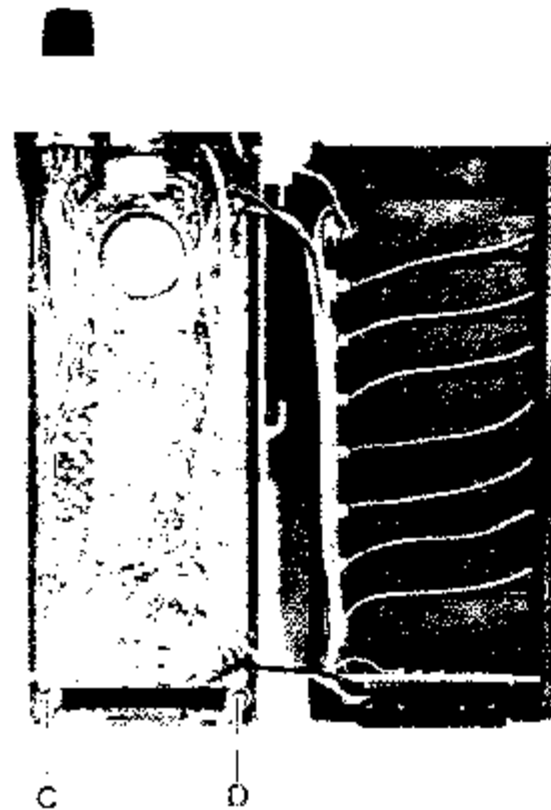
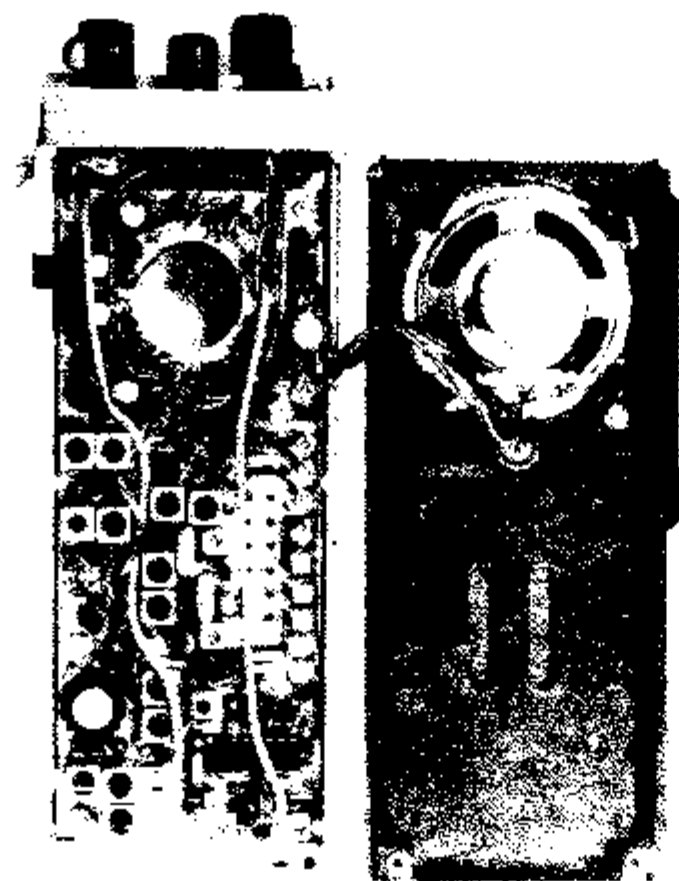

Fig. 2
Fig. 3
2. Remove these screws, and CAREFULLY remove the back of the transceiver. This will expose the next set of mounting bolts shown in Fig. 2.
3. Remove the bolts C and D shown in Fig. 2, and CAREFULLY remove the front panel of the case. The crystal bank will now be easily identified as shown in Fig. 3, 4.